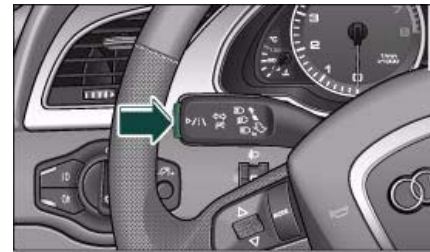

Fig. 158 Turn signal lever: Pushbutton for Audi lane assist
- Press the button  fig. 158 -arrow- to switch the system on and off. The indicator lamp  in the instrument cluster will light up or go out.